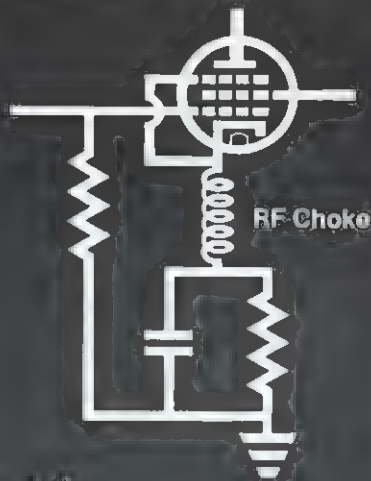

Fig. 14
1. Interference in tube type equipment can be avoided by connecting an RF choke (ranging in value from 2 milihenry to 5 milihenry) in the upper end of the cathode circuit as shown in Figure 14.